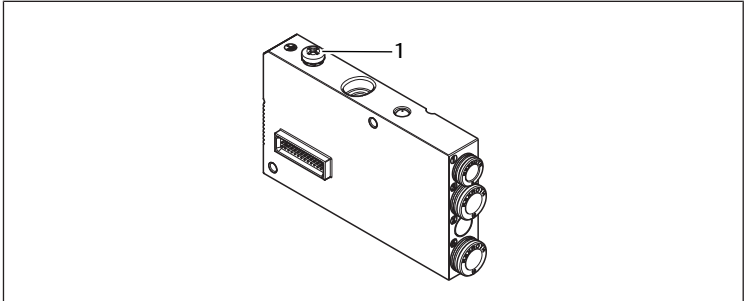

Fig. 9: FE connection, HF04/HF04XF
2. With an HF04-/HF04XF valve block, connect the FE connection (1) on the valve block to the functional grounding via a low-impedance line to discharge EMC interferences. See → Fig. 9.